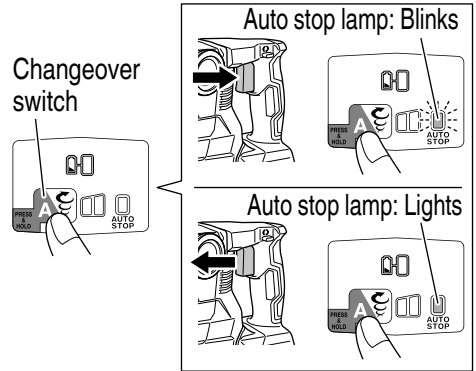

Fig. 39
- Auto stop mode (on/off) (**Fig. 39**)
In selection mode, pressing the changeover switch for longer than two seconds will move to memory mode. (**Fig. 39**)